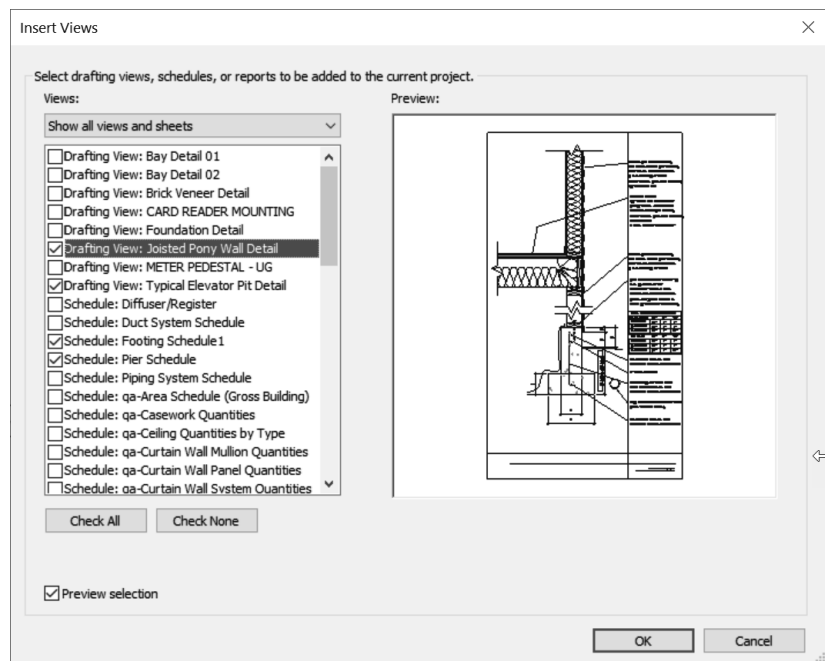

Figure 1–48
5. Select one or two drafting views and one or two schedules from the list, as shown in Figure 1–48.